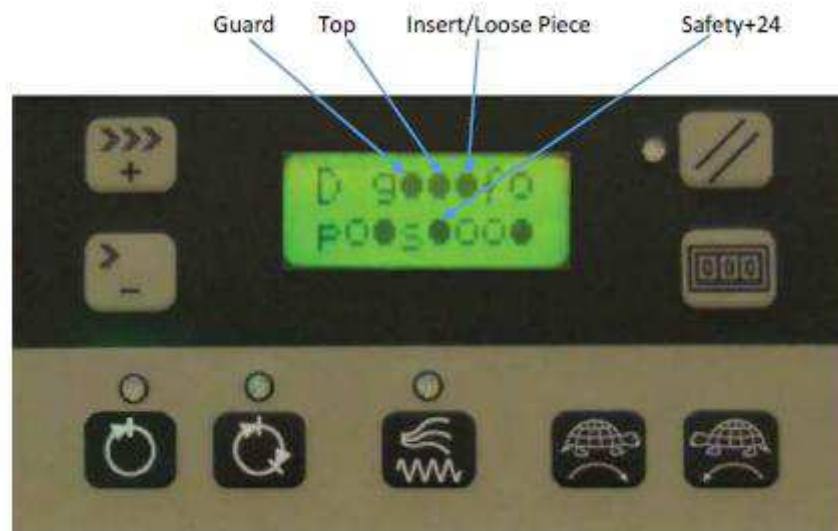

Figure 15
4. On the control panel display, verify that the Guard, Top and Insert Input Identifiers are on and that the Safety+24 Input Identifier is ON. Reference Figure 15.